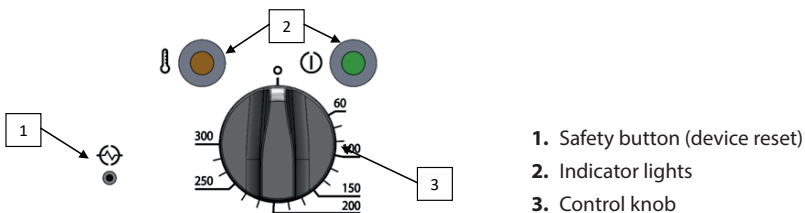

Figure 16. Device controls
- Before connecting power, the control knob (Fig.16 Pos. 3) should be set to "0".
- To switch on, turn the knob to the right and set the maximum temperature. Both signal lights will turn on. The green one indicates that the device is working, the orange one means active heating and goes out when the target temperature (set by the dial fig.16 pos. 3) is reached. When the hob temperature falls, the unit re-energizes the heater until the preset temperature is reached.
- The device is equipped with a safety mechanism that will automatically cut off the power if the nominal operating temperature is exceeded. After removing the cause of the malfunction and cooling the hob, press the safety button to continue working with the appliance (Fig. 16 Pos. 1).
- To switch off the unit, turn the knob (Fig.16 Pos. 3) to "0" counterclockwise (the green indicator light will turn off) and disconnect power supply. After work, wait for the temperature of the appliance to fall and then wash it and remove any leftovers from the drawer. Do not wash the heating hob with detergent, as this can lead to rust. Finally, wipe the hob dry with a soft cloth or paper towel.